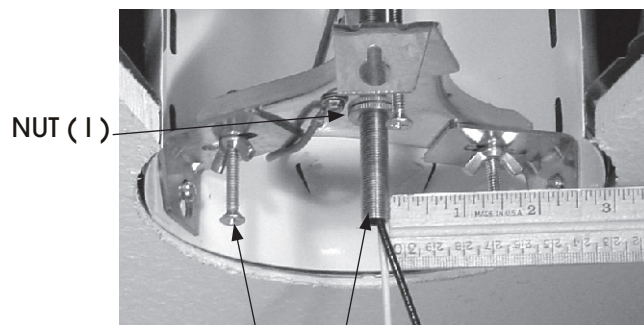

FIGURE 6
STEP 9: Fish power leads (K) through center hole on mounting bracket (C) through threaded pipe (G) screw threaded pipe (G) into center hole on mounting bracket (C) leaving 1/4" below ceiling (SEE FIGURE 6) then tighten upper nut (I).
STEP 10: Install mounting plate (J) tighten until snug against phillips screws (F). Install and tighten lower nut I (SEE FIGURE "7")
STEP 8: Fish power leads (K) through center hole on mounting bracket (C) through threaded pipe (G) screw threaded pipe (G) into center hole on mounting bracket (C) leaving 1/4" below ceiling (SEE FIGURE 6) then tighten nut (I).